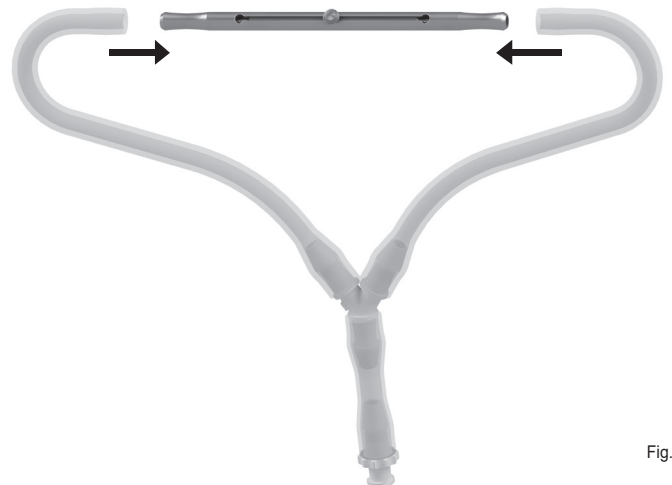

Fig. 4
- Assemble cleaning adapter G-31034 according fig. 4.
- After cleaning and disinfection remove the cleaning adapter in reverse order (see fig. 4).